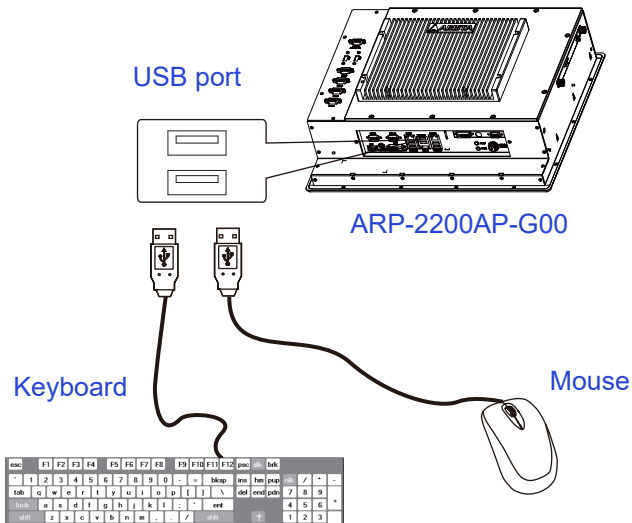

Figure 1
- Insert a USB keyboard and a USB mouse(not supplied) to ARP-2200AP-G00 Series touch panel computer for controlling on the computer(Figure 1). You can also insert a PS2 type keyboard or a PS2 type mouse(not supplied) to your computer(Figure 2).